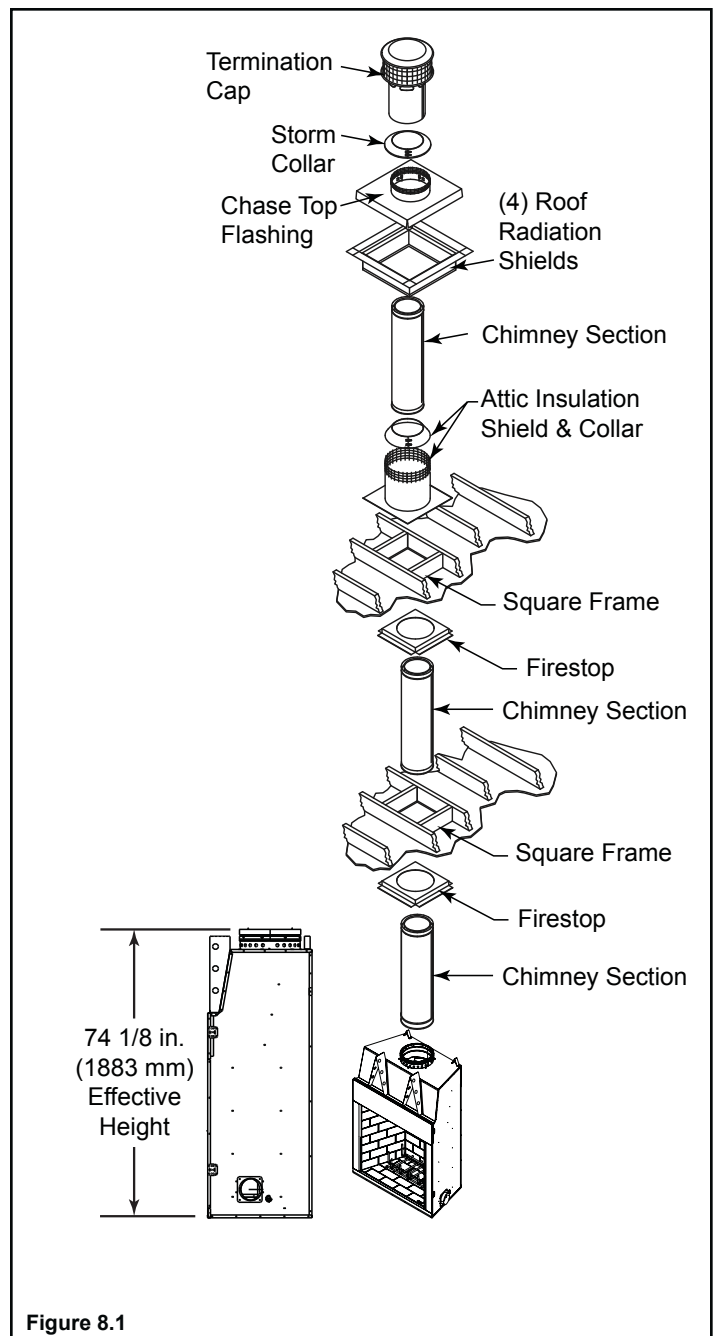

Figure 8.1
- Subtract the effective height of the fireplace assembly (see Figure 8.1) from the total vertical height to determine the overall height of the chimney installation.
- Create a schematic for your application similar to Figure 8.1 showing components required (referring to Table 8.1).
- Frame openings at each floor level above the fireplace (Figure 8.1). These openings are to hold the firestop and attic insulation shield.
A firestop is required on each floor penetration in multi-story installation. Building Codes require a firestop at every floor/ceiling level, including where the chimney penetrates into the attic. Figure 8.1 shows a typical 2-story installation with an attic.